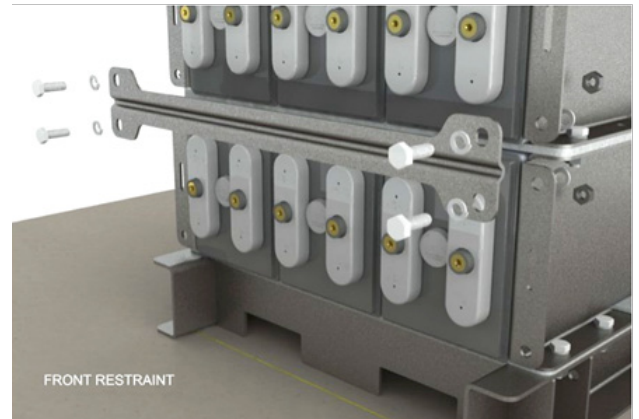

Figure 10 Front Restraint
Front restraints are installed between each tier of the system to prevent cells from shifting in the event of an earthquake. With all of the modules properly stacked and in agreement with the OutBack Power layout drawing, attach the restraint bar using four (4) 10mm bolt assemblies (see Figure 10).